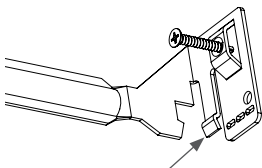

fig. 4
- c. T-Grid ceiling only: Bend the tabs on the hanger bars to lock them to the t-grid (see fig. 4).